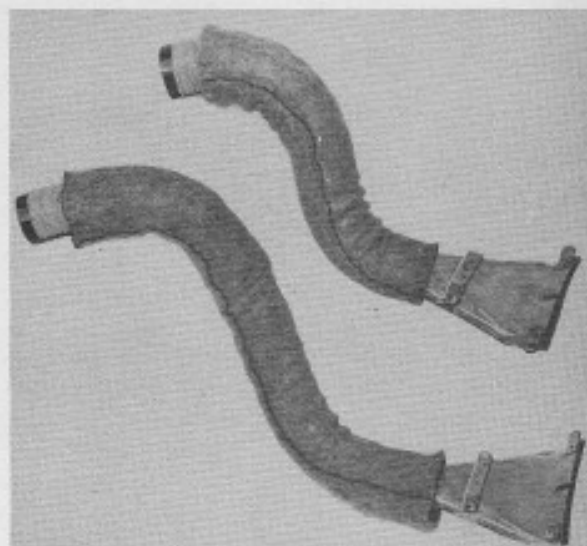

Fig. 4.
2. Demister Tubes - To fit the sewn felt sleeves UW-1926 and UW-1924, it is necessary to remove the following parts:- Demister and Heater cross Duct UD-1971, outer Demister Tubes UD-1341 and inner Demister Tubes UD-1342. The picnic tray should be pulled out as far as possible. Remove the heater and demister cross duct, slacken the three securing worm drive clips and push the larger duct into the smaller one allowing the L/H end of the duct to be lowered. Ease the demister tubes off the cross duct, and withdraw the large duct from the smaller leaving the latter still in position. The demister tubes can now be removed. Felts UW-1924 should then be fixed to the outer tubes UD-1341, likewise felts UW-1926, fixed to the inner tubes UD-1342, as shown in Fig.4. When the sewn felt sleeves are not